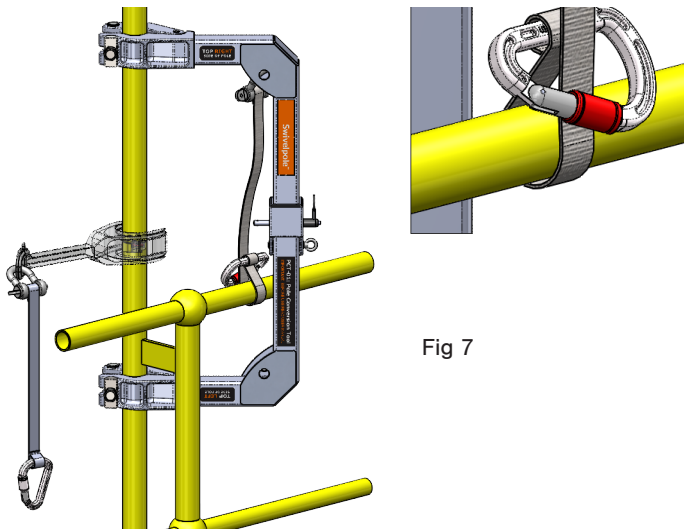

Fig 7
- ☐ Second person attaches the lanyard to the guardrail and securely fasten the safety latch. (Fig 7)